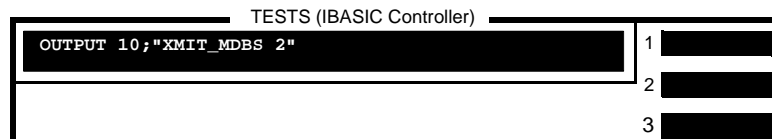

Figure 59
- b. Select (1) **RF Parameters**, or press the k1 key.
- g. Move the cursor to the message block and enter **OUTPUT 10;"XMIT_MDBS 2"**, see figure 59. Use the Test Set's cursor control knob to select each character from the choices menu and then select **DONE**.